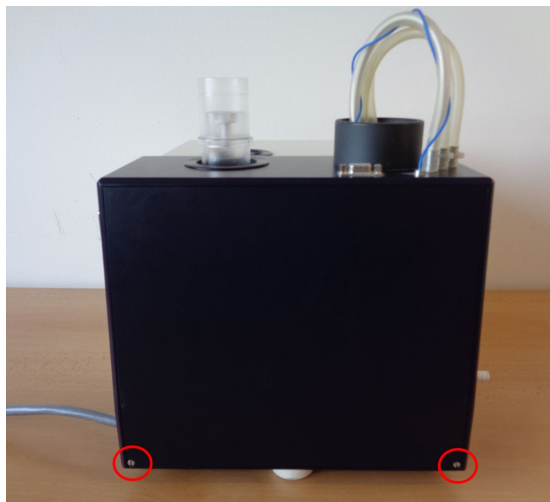

Figure 4: Back panel
- Unscrew two screws on the back panel of pick-up unit and remove it(Figure 4).